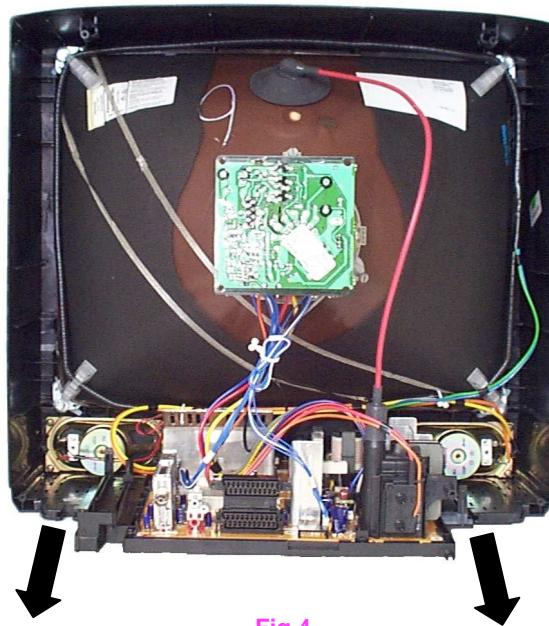

Fig.4.
2. Hold and lift the rear of the E-PCB chassis and gently pull the chassis toward you, as shown in **Fig.4.**